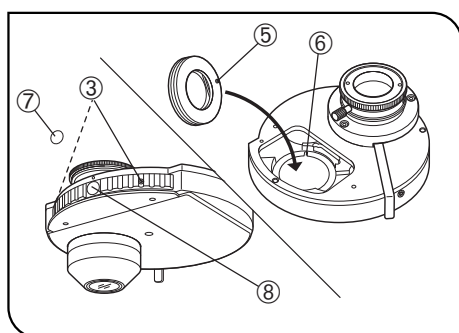
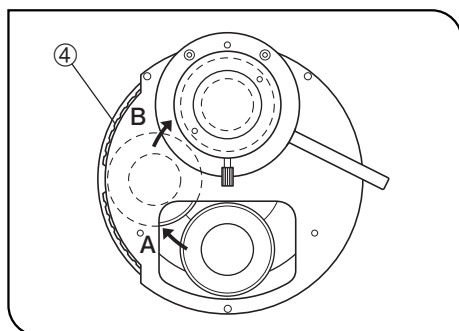

Fig. 33
Fig. 34
2. Remove the condenser cover ① by loosening the retaining screws ② using a coin, etc.
- Using the knob provided with the condenser, loosen the two DIC prism clamping screws ③ until the rotatable limits.
- Rotate the turret by 90° counterclockwise, and drop in the DIC prism by aligning its positioning pin ⑤ with the positioning groove ⑥ in the hole of the turret ④. (Fig. 33)
A. Rotate the turret ④ by 90° clockwise (Fig. 34) and tighten the two DIC prism clamping screws ③ uniformly using the dedicated knob provided with the condenser. (Figs. 33 & 34)
B. Rotate the turret ④ by 90° clockwise (Fig. 34), and attach the index sticker ⑦ provided with the DIC prism onto the side ⑧ of the condenser turret ④ so that the index sticker is upside down. (Figs. 33 & 34)